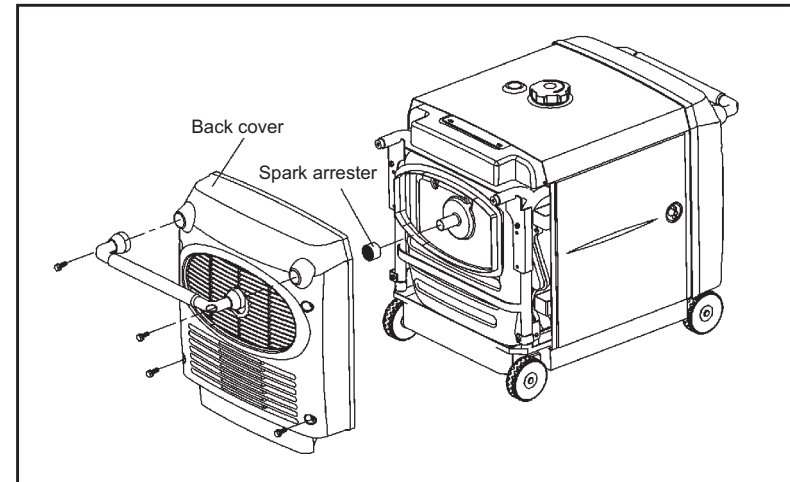

Fig. 16 Remove the spark arrester view
7.6 Spark arrester maintenance (See Fig.16)